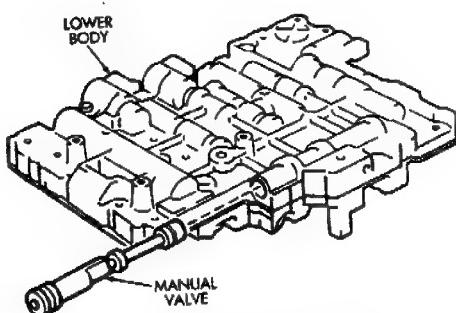

Fig. 4 Installing Manual Valve
- (6) Install manual valve (Fig. 4).